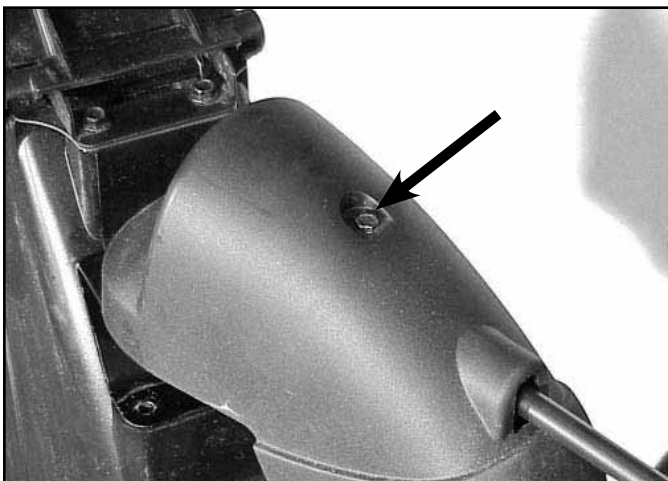

Fig 207
2. Remove the single screw retaining the gear cover, lift the front of the cover, and slide it to the rear (Fig. 207).